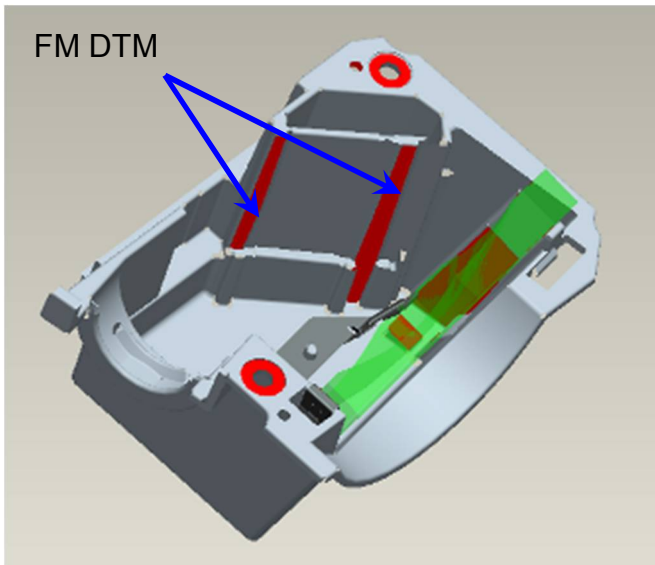
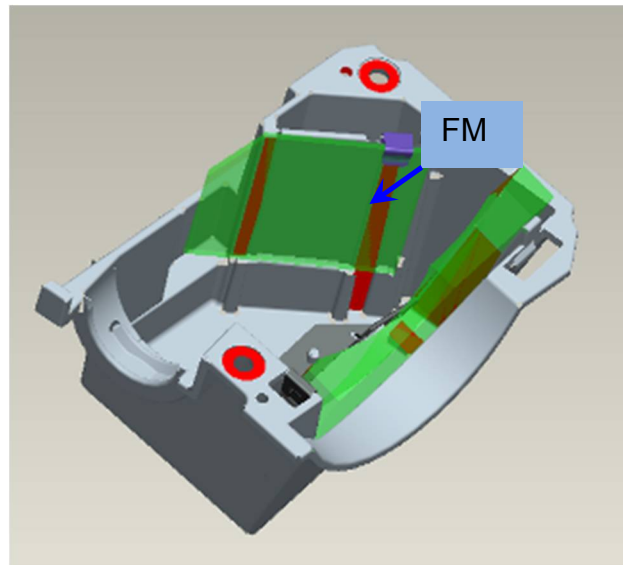

Fig. 2-7
Fig. 2-8
- V. Check mark point of FM and place FM on SUB HSG FM DTM. (Fig. 2-7 & Fig. 2-8)